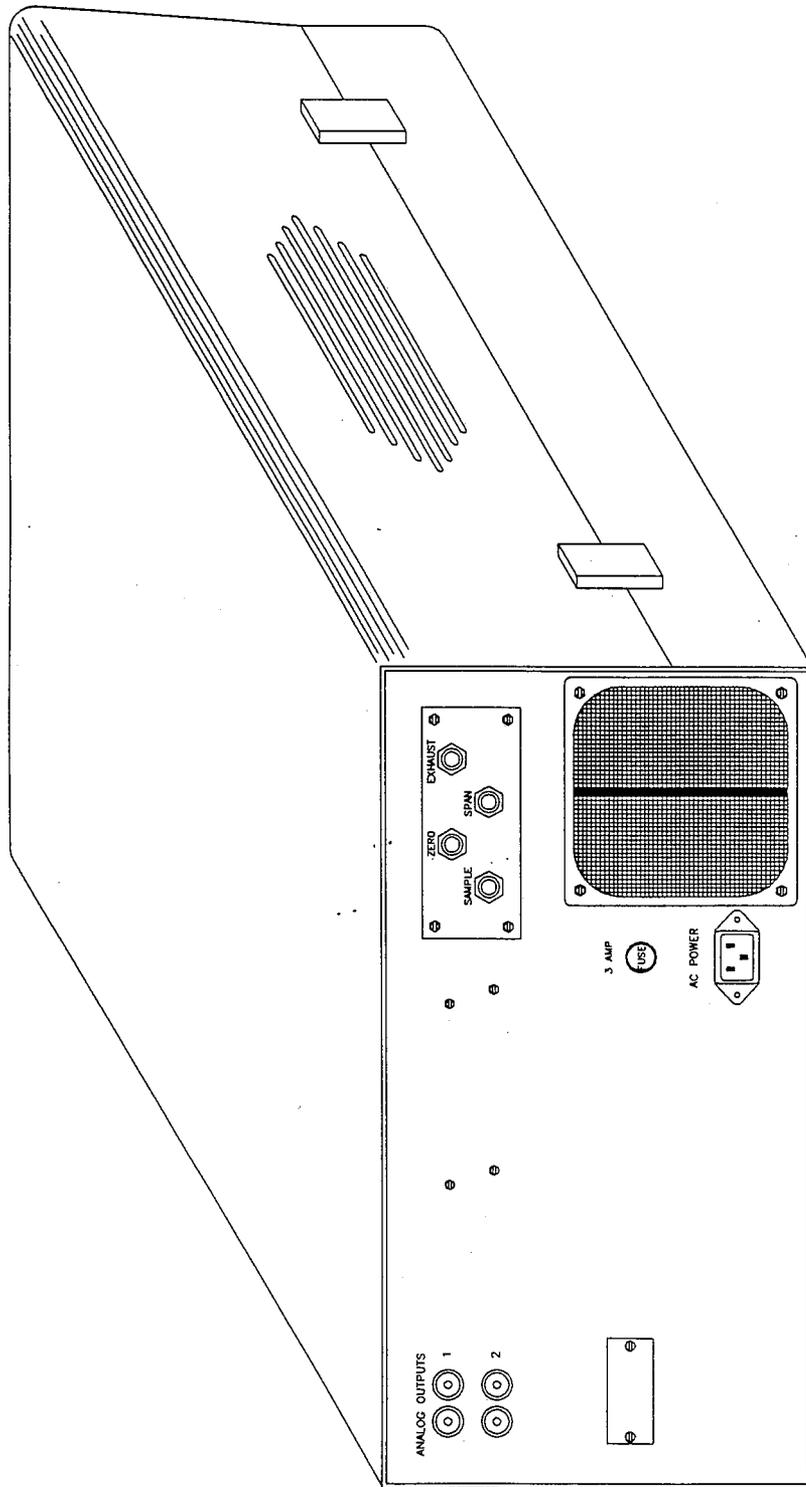

Figure II-1
1. Connect \* the ambient air to be measured to the bulkhead connector labeled "SAMPLE" on the rear panel of the instrument (see Figure II-1). Care should be taken to ensure that the sample is not contaminated by dirty, wet, or incompatible materials in the sample lines. Teflon, borosilicate glass, or similar tubing with an OD of 1/4" and a minimum ID of 1/8" is required for all sample lines. The length of the tubing should be held to a minimum. For best results the tubing between the manifold and the analyzer should be less than ten (10) feet.
2. Connect \* (see caution above) a source of CO free air to the bulkhead connector labeled "ZERO" on the rear panel of the instrument (see Figure II-1). Generation of CO free air is discussed in Section IV-A.2.
3. Connect \* (see caution above) a source of CO span gas to the bulkhead connector labeled "SPAN" on the rear panel of the instrument (see Figure II-1). See Section IV-A.2 for a discussion of suitable sources of span gases.
5. Connect a recording device to the output channels of the instrument. See Figure II-1 for the location of the recorder outputs. Unless otherwise specified, the recorder signals are 0-10 VDC.
6. Install the power cord to the rear of the instrument (see Figure II-1). Plug the male end into an appropriate outlet. Check for proper voltage requirements.